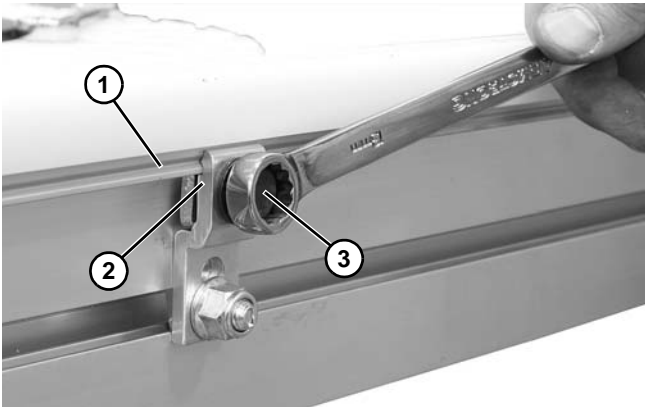

Figure 89
5. Attach guiding (Figure 89, item 1) to clip (Figure 89, item 2) and tighten screw (Figure 89, item 3).